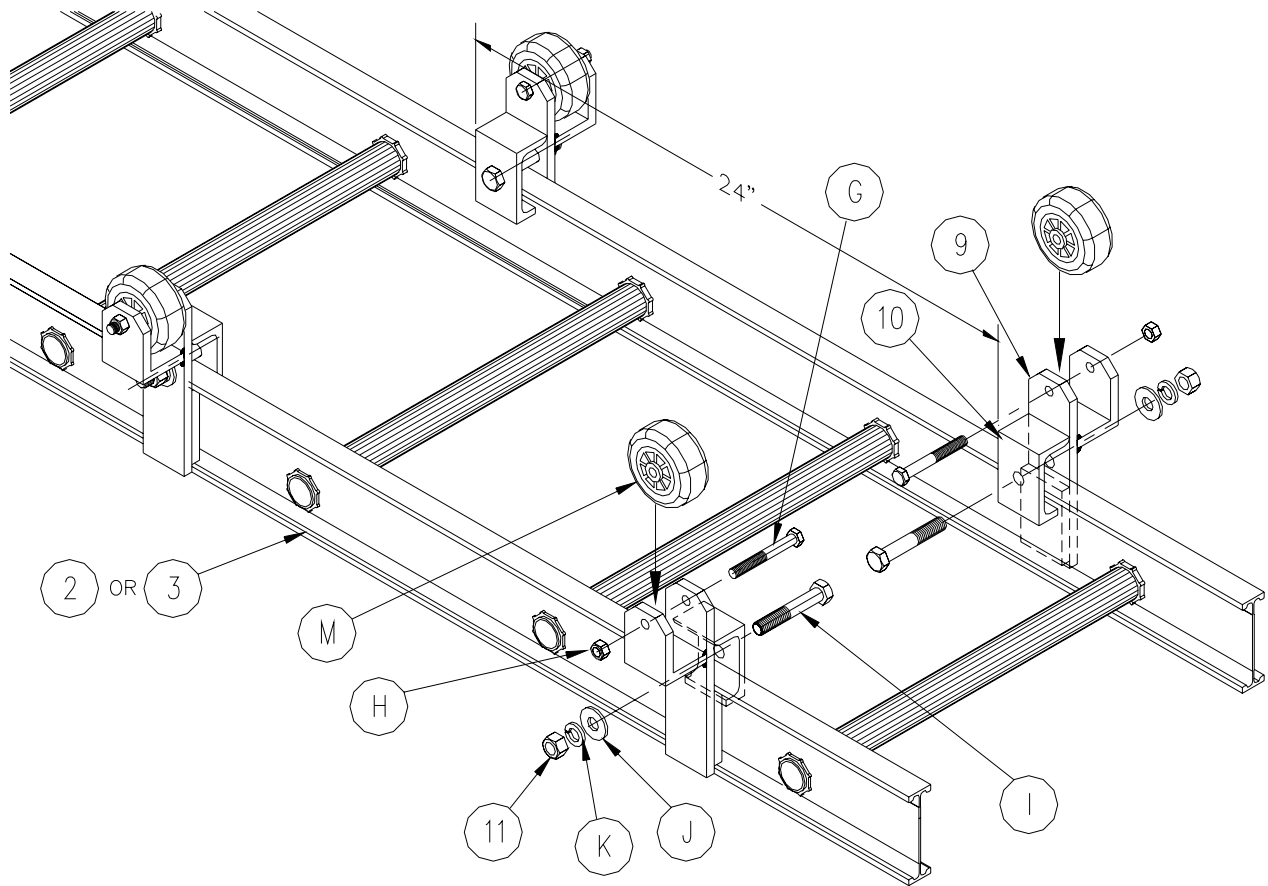

Figure 3-2.
1. Refer to **Figure 3-2**. Ensure that you do not overtighten the wheel axle bolt. It is only necessary to tighten until the nut is snug against the roller bracket.
1. Refer to **Figure 3-2**.
2. The roller assemblies can be attached either to the outside or inside of the track. This will give you two roller widths to which you can fit your watercraft. Space the roller assemblies evenly starting at the water end of the track. The rollers can be adjusted along the entire length of the track to fully support your watercraft depending on its length. The first (2) sets of rollers may be placed closer together to better support the craft as it initially enters the beacher.